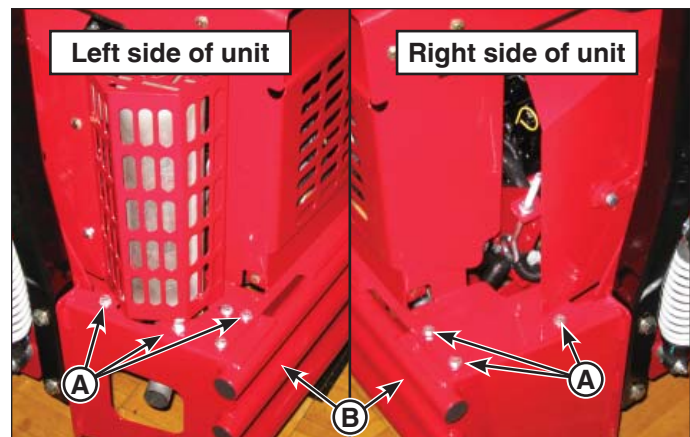

Figure 2. Removing the Hood Assembly
2. Remove the six (6) 5/16-18 X 3/4 bolts, 5/16 gr. 9 washers and 5/16-18 nylon flange nuts (**A**, **Figure 2**) that secure the hood assembly to the bumper. Discard the six (6) 5/16-18 nylon flange nuts.